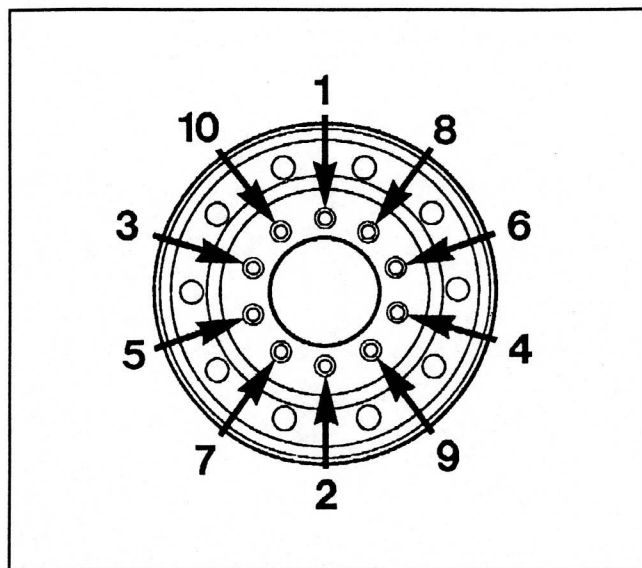

Figure 4 - Wheel nut tightening sequence
22. Replace wheel, run in lightly the nuts and torque according to the recommended sequence in figure 4. This is important, otherwise wheel may be eccentric with hub and will not run straight. In this initial step, run the nuts up only as necessary to correctly position wheel.
23. Tighten nuts progressively as shown in figure 4. The final tightening should be done with a torque wrench. Torque nuts between 450 - 500 ft•lbs (610 - 675 N•m) for aluminium as well as steel wheels.